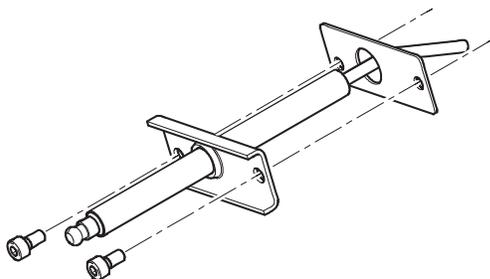

Figure 31: Flame Rod Assembly
- d. Install flame rod as shown in Figure 31.